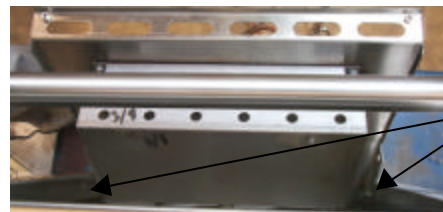

Fig: 10-3
7. Push the controller forward and under the grab bar. **Fig 10-3**